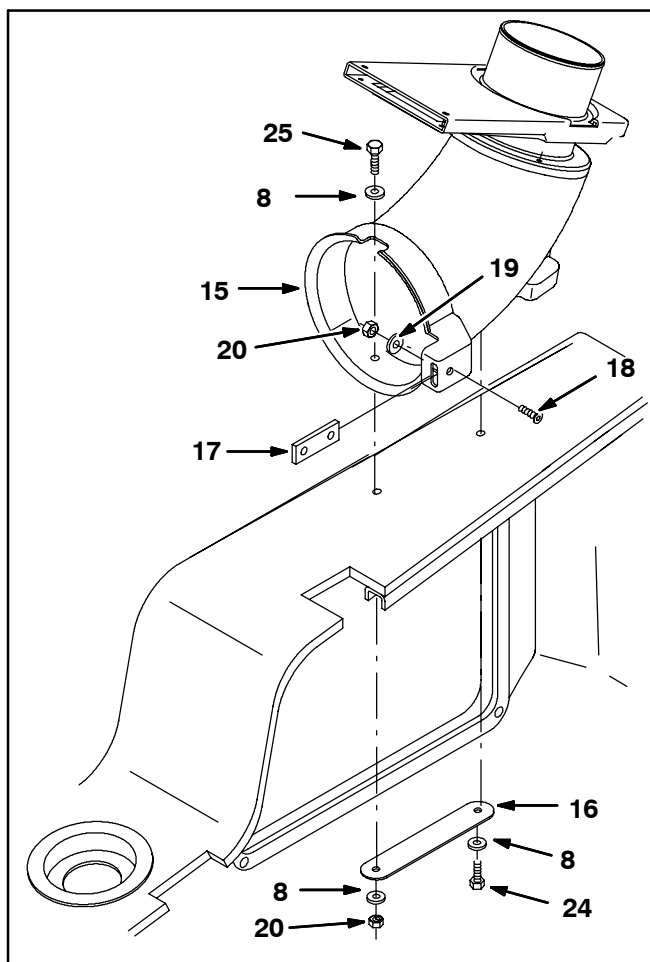

FIG. 5
4. Use a flat screw (18), washer (19), and hex nut (20) to install the mounting plate (17) onto the upper wand tube (15). Hand tighten hardware. Refer to Fig 5.